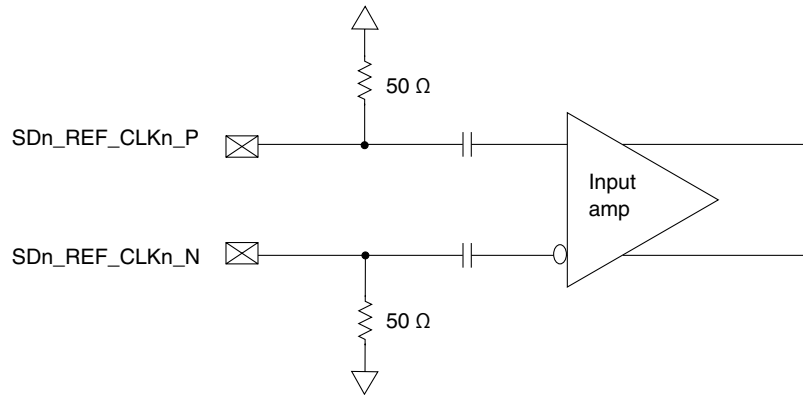

Figure 68. Receiver of SerDes reference clocks
- They are internally AC-coupled differential inputs as shown in Figure 68. Each differential clock input (`SDn_REF_CLKn_P` or `SDn_REF_CLKn_N`) has on-chip 50- Ω termination to `SD_GND` followed by on-chip AC-coupling.